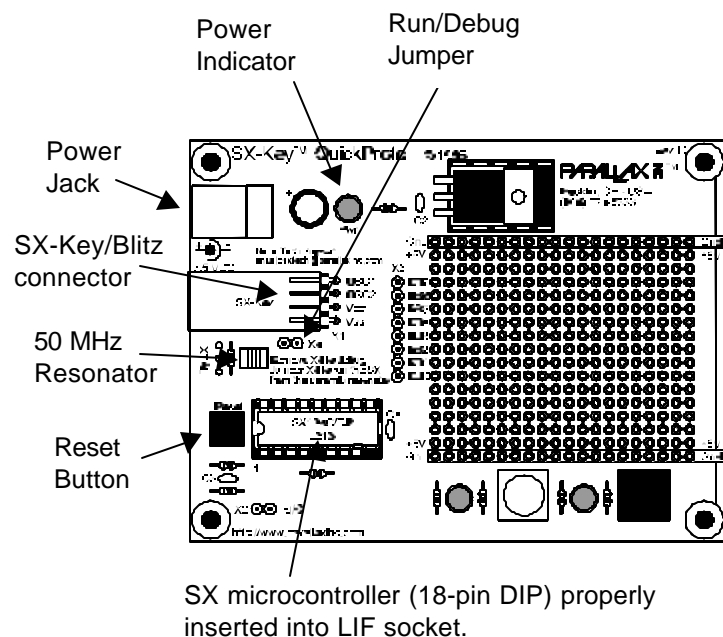

Figure 2.3: SX-Key QuickProto Board with SX chip inserted.
- 11) Plug an SX18AC/DP into the 18-pin LIF socket on the QuickProto board as shown in Figure 2.3. Make sure it is oriented so that the half-moon notch in the chip faces the “Reset” button.